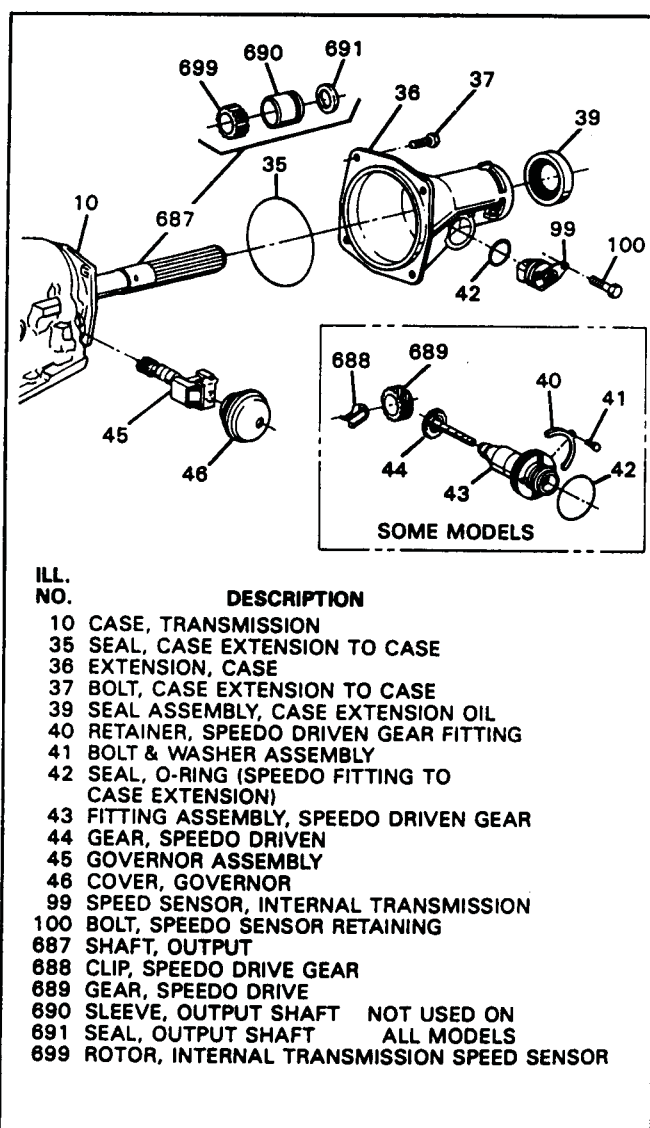

Figure 50
2. Remove the bolt, adapter retainer and speedometer adapter housing, as shown in Figure 50. (Used some models only).
3. Remove four extension housing bolts and the extension housing. Refer to Figure 50.
4. Remove and discard the extension housing "O" ring (Figure 50).
5. Remove the output shaft sleeve (690) if so equipped (Figure 50).